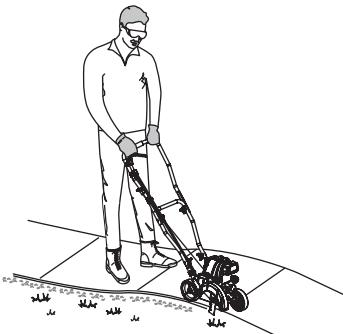

Fig. 10
1. Position the upper shaft onto the middle shaft. Make sure the "V" bend in the handle is pointing up (toward the front of the unit) and that the throttle control is on the right side when the operator is standing in the operating position (Fig. 10). Keep the throttle cable and wire assembly to the front of the unit.
- Stand in the operating position (Fig. 10). Stand up straight. Do not bend over.